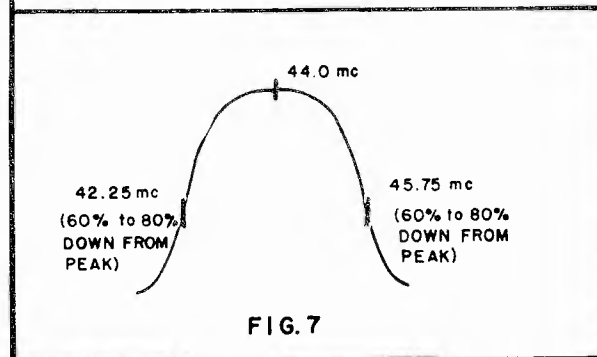

FIG. 7
20. Increase bias voltage to -4.5 volts and adjust the oscilloscope so that 2 inches of vertical deflection is equivalent to approximately 2 volts P-P output. Adjust output of signal generator until a 2 volt P-P indication is obtained on the 'scope. Response curve and marker positions should conform to Fig. 7.
- CAUTION - No attempt should be made to improve a response curve which conforms to that shown in Fig. 7. Minor deviations may be corrected by slight touch-up of specific coils to make response conform to Fig. 7, as indicated below: